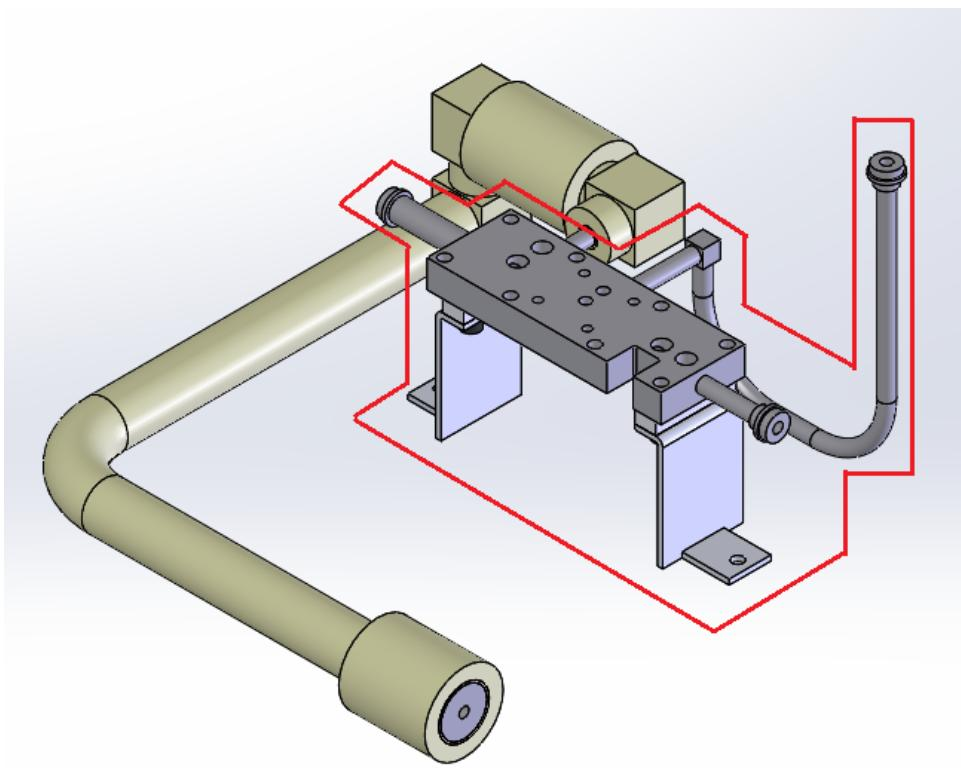

Figure 1.24:
5. Because this model was prepared to help compare our simulation to our lab results, we will need to add an extra component to make sure that our simulation model accurately represents what was tested in the lab. As shown in Fig. 1.24, the additional weldment section circled in red was attached in our lab testing so this needs to be modeled as well to ensure that our results are valid when simulated. To do so simply create the weldment model by either measuring the physical weldment used or using an available step file. After this is completed drop the new component into your assembly and mate it to your jacket weldment section in the proper orientation.